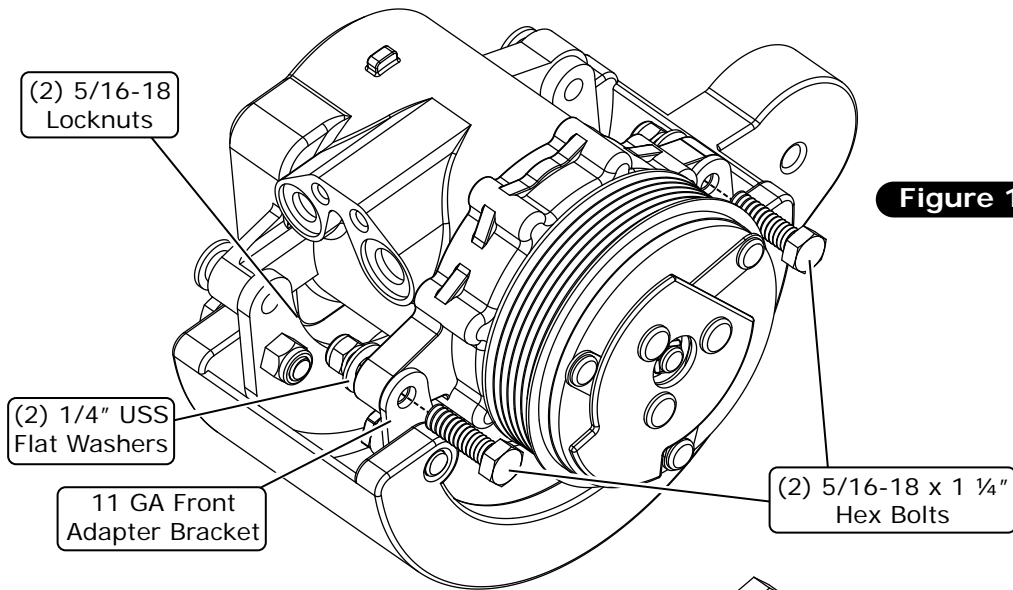

Figure 1
1. Install the 11 GA front adapter bracket onto the inside front of the OEM bracket. Secure it using (2) M10 x 1.5 x 25mm hex bolts and (2) .750" OD x .482" ID x .375" length spacers threaded into the OEM bracket as shown in Figure 1, below.
1. Place the compressor into the cradle, with the front ears of the compressor against the rear of the 11 GA front adapter bracket. Secure the front ears using (2) 5/16-18 x 1 1/4" hex bolts, (2) 1/4" USS flat washers and (2) 5/16-18 locknuts as shown in Figure 1, below. **NOTE: The 1/4" USS flat washer installs behind the front compressor ears.**